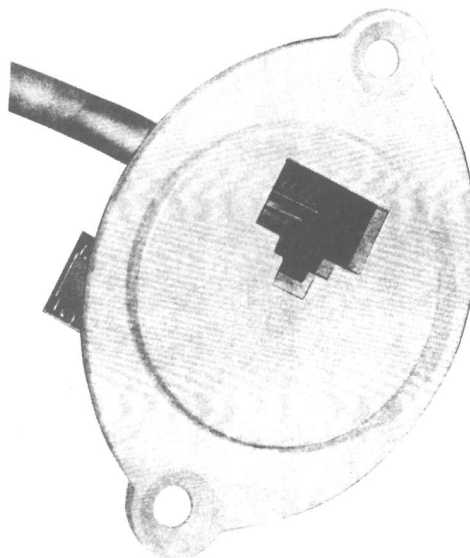

Fig. 1—102A Connecting Block, Front View
1.03 A miniature 8-position jack is used to provide the bridged tip and ring connections of telephone lines for registered terminal equipment for four individual lines. The connections are furnished through a 102A or 103A connecting block (Fig. 1, 2, and 3).